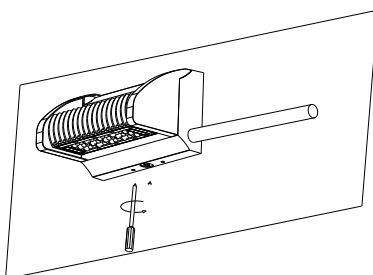

Figure 2-5
5. Tighten the pipe on the luminaire; after installation, tighten the screws. (Figure 2-5)